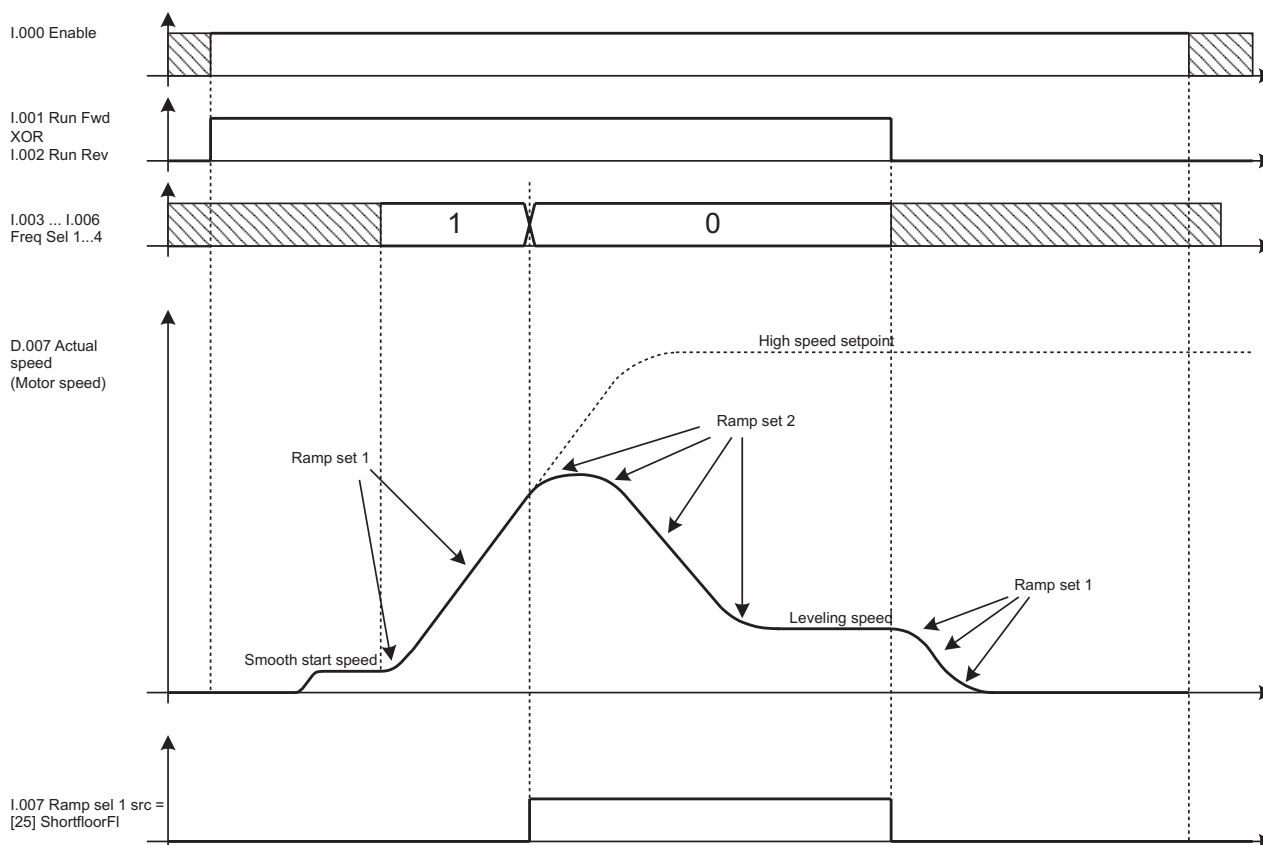

Fig. 7.5 – Short floor sequence
- Ramp Sel 1 ... 2** The binary code defined by the status of these signals selects the set of parameters for ramp profile (jerks, acceleration and deceleration). By default, the first ramp selector is commanded by the **ShortFloorFI** (see chapter 7.3), while the second ramp selector is fixed to FALSE. Therefore, the first ramp set is normally active, and the drive will automatically switch to the second ramp set whenever a short floor is detected (see Fig.7.5).
A typical short floor sequence is reported in Fig. 7.5 .